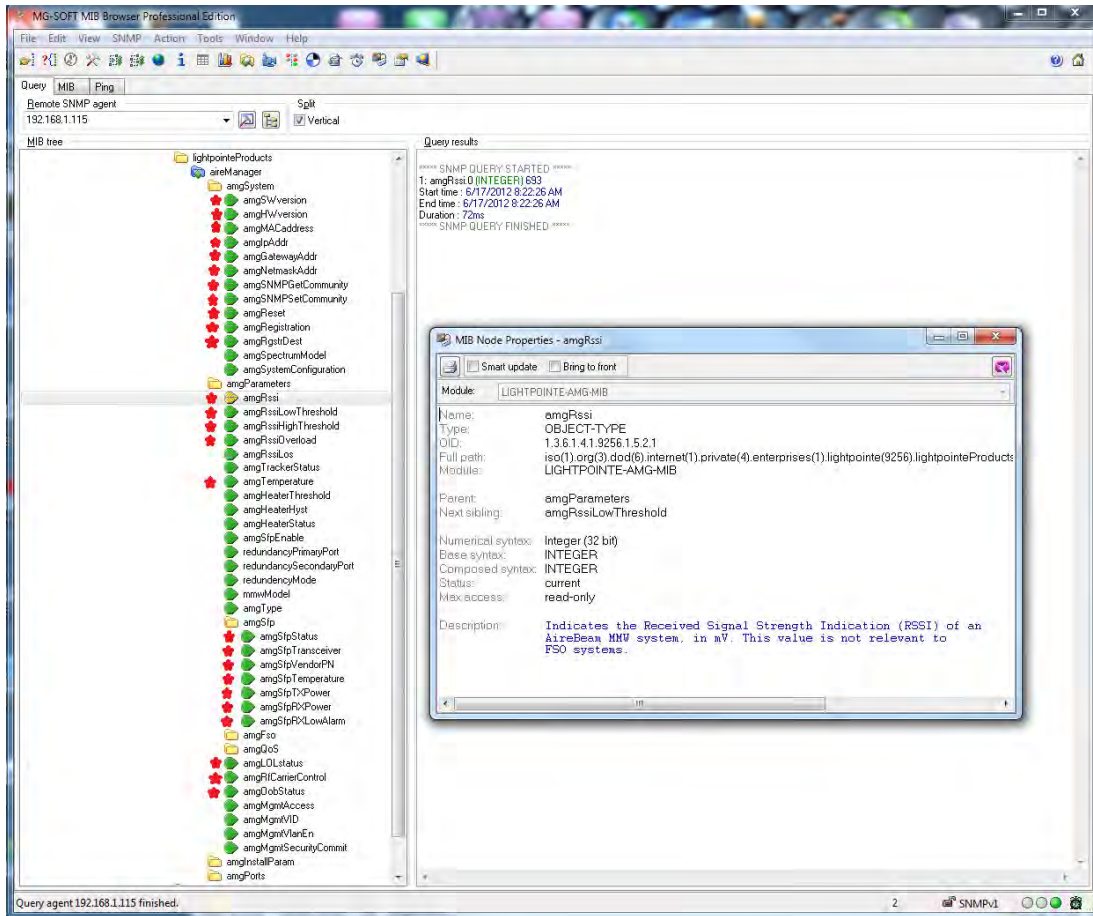

Figure 6-3: MIB tree iso/org/dod/internet/private/enterprises/lightpointe/lightpointeProducts
iso/org/dod/internet/private/enterprises/lightpointe/lightpointeProducts (see Figure 6-3)
The variables with a  in front of the variable name can be polled via SNMP command. Some variables are READ ONLY and others have a READ/WRITE status. Most SNMP programs allow highlighting a specific variable and open a property description window similar to the one shown in Figure 6-3 below. The MIB file is actually a readable ASCII Text file and the meaning of a specific variable is documented in the MIB file.
1. **RSSILow Alarm trap** (Notification: 30)→ This trap is send when the RSSI Low threshold is reached. This threshold can be changed from within the web browser an/or by chnaging the value of the amgRssiLow Threshold variable (see Figure 6-3)
2. **RSSIClear Alarm trap** (Notification: 31)→ This trap is send when the RSSI High threshold is reached. This threshold can be changed from within the web browser an/or by chnaging the value of the amgRssiHigh Threshold variable (see Figure 6-3)